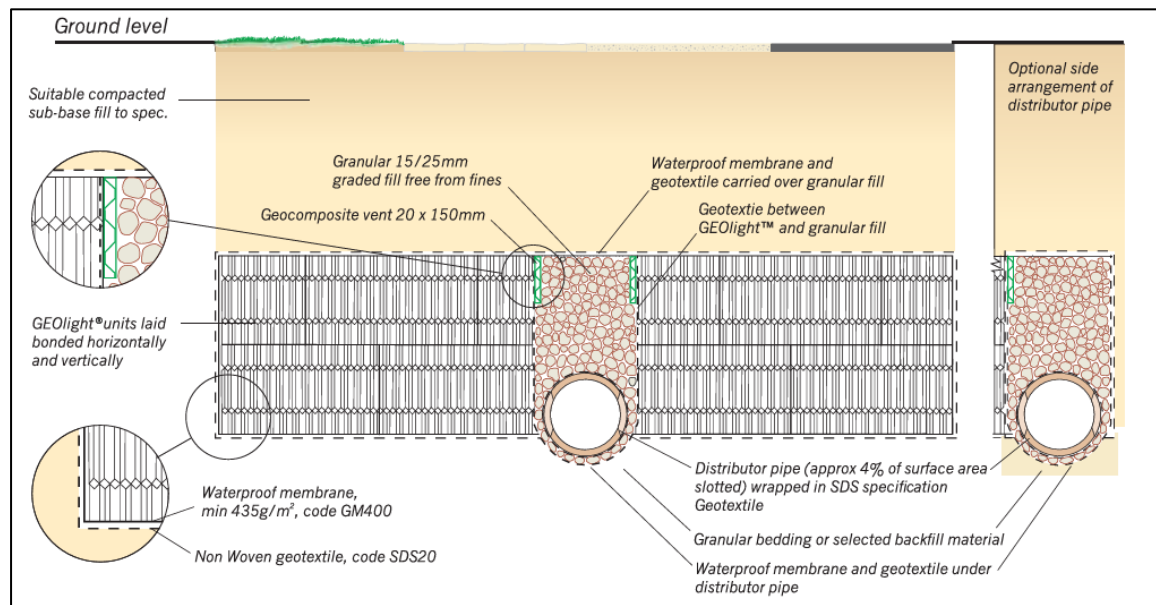

Figure 3: SDS GEOLight Cross Section
- 4.10 The SDS GEOLight system appears to have been substituted and installed in this area. This product typically requires a specific arrangement, including a perforated pipe running centrally through the attenuation crates, as illustrated in **Figure 3** below.